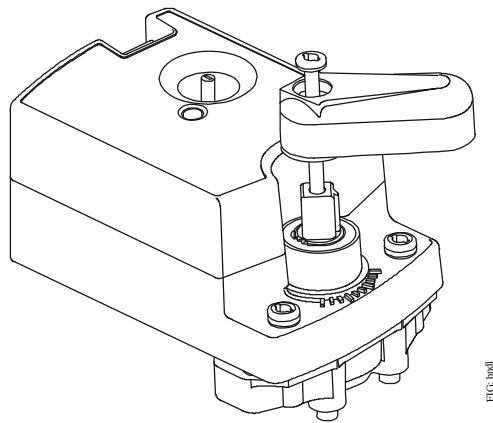

Figure 5: Installing the Handle
3. Place the handle the top of the drive shaft (Figure 5). The handle is keyed on and can only be mounted in one orientation.